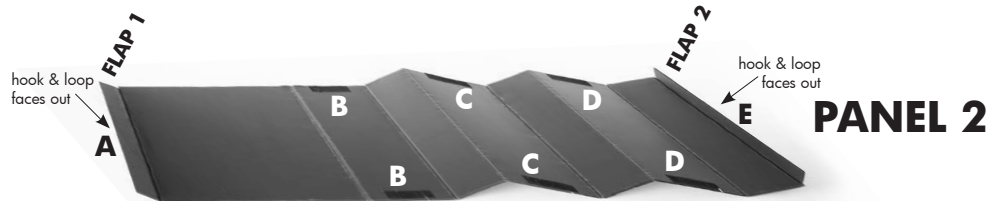

Figure 2
*IMPORTANT:* Position **PANEL 2** as shown in **Figure 2** with sticker label A on the left side, and to the right of **PANEL 1**.